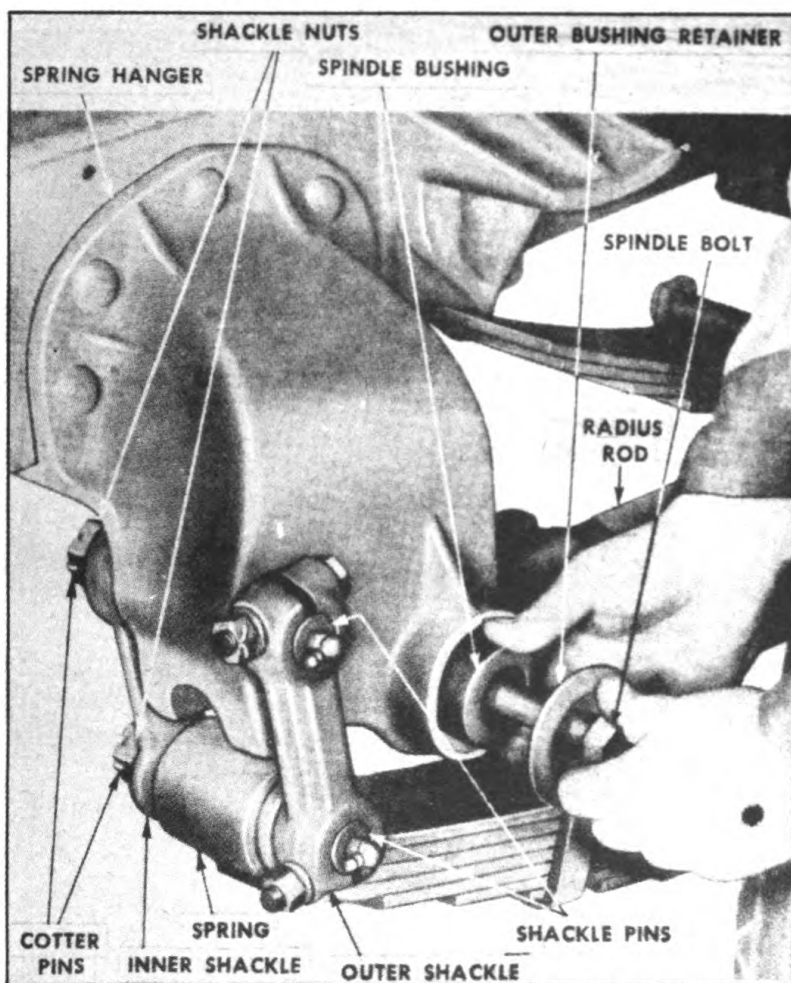

FIGURE 54. REMOVING SPRING HANGER
5. **SPRING HANGERS (Figure 54).**—*a.* NOTE: When replacing spring hangers or auxiliary spring brackets disconnect converter gear from semi-trailer.
c. *Removal, front hanger (Figure 54).*—(1) Remove outer and inner wheels on both sides. With wheels removed the hanger is much more easily worked on, especially when rivets are being driven.
(2) Turn gear over and rest it on three horses, two at rear lengthwise and one at front crosswise of frame.
(3) Disconnect radius rod at front end only (Figure 54).